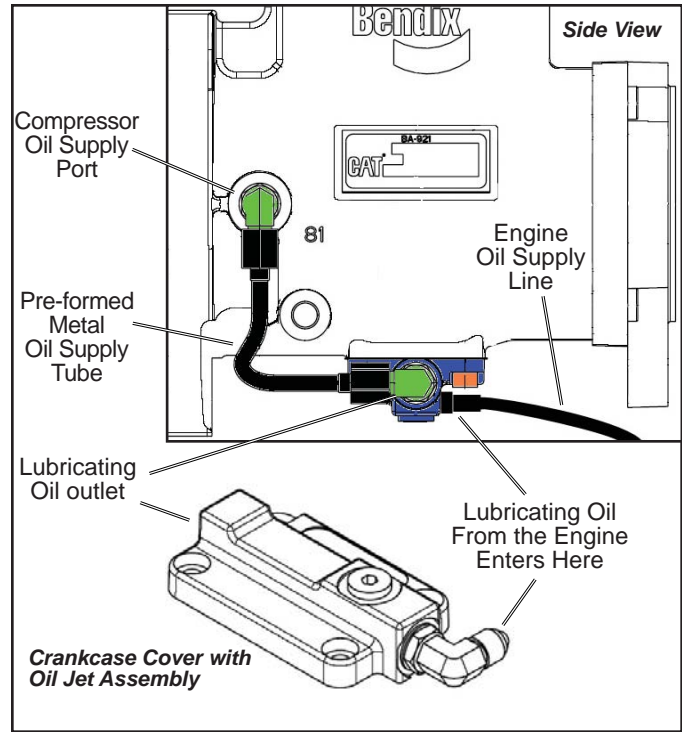

FIGURE 17 – VIEWS OF SPECIAL CRANKCASE COVER WITH OIL JET ASSEMBLY FOR CAT C11/C13 ENGINE APPLICATIONS
1. Remove the four crankcase cover cap screws (29) securing the crankcase cover (28) to the crankcase (21). Using a soft mallet, gently tap the crankcase cover to break the gasket seal. Remove the crankcase cover gasket (27).
2. In the case of the Caterpillar C11 and C13 engine application, the BA-921® standard compressor utilizes an "oil jet" that sprays oil under the piston for purposes of cooling. This oil jet is part of a special crankcase cover that is used strictly on the BA-921® compressor for the C11 and C13 engine installation (Figure 13). Refer to section OPERATION – Lubrication for description of the system. To disassemble, perform the following steps. (Refer to Figure 17.)